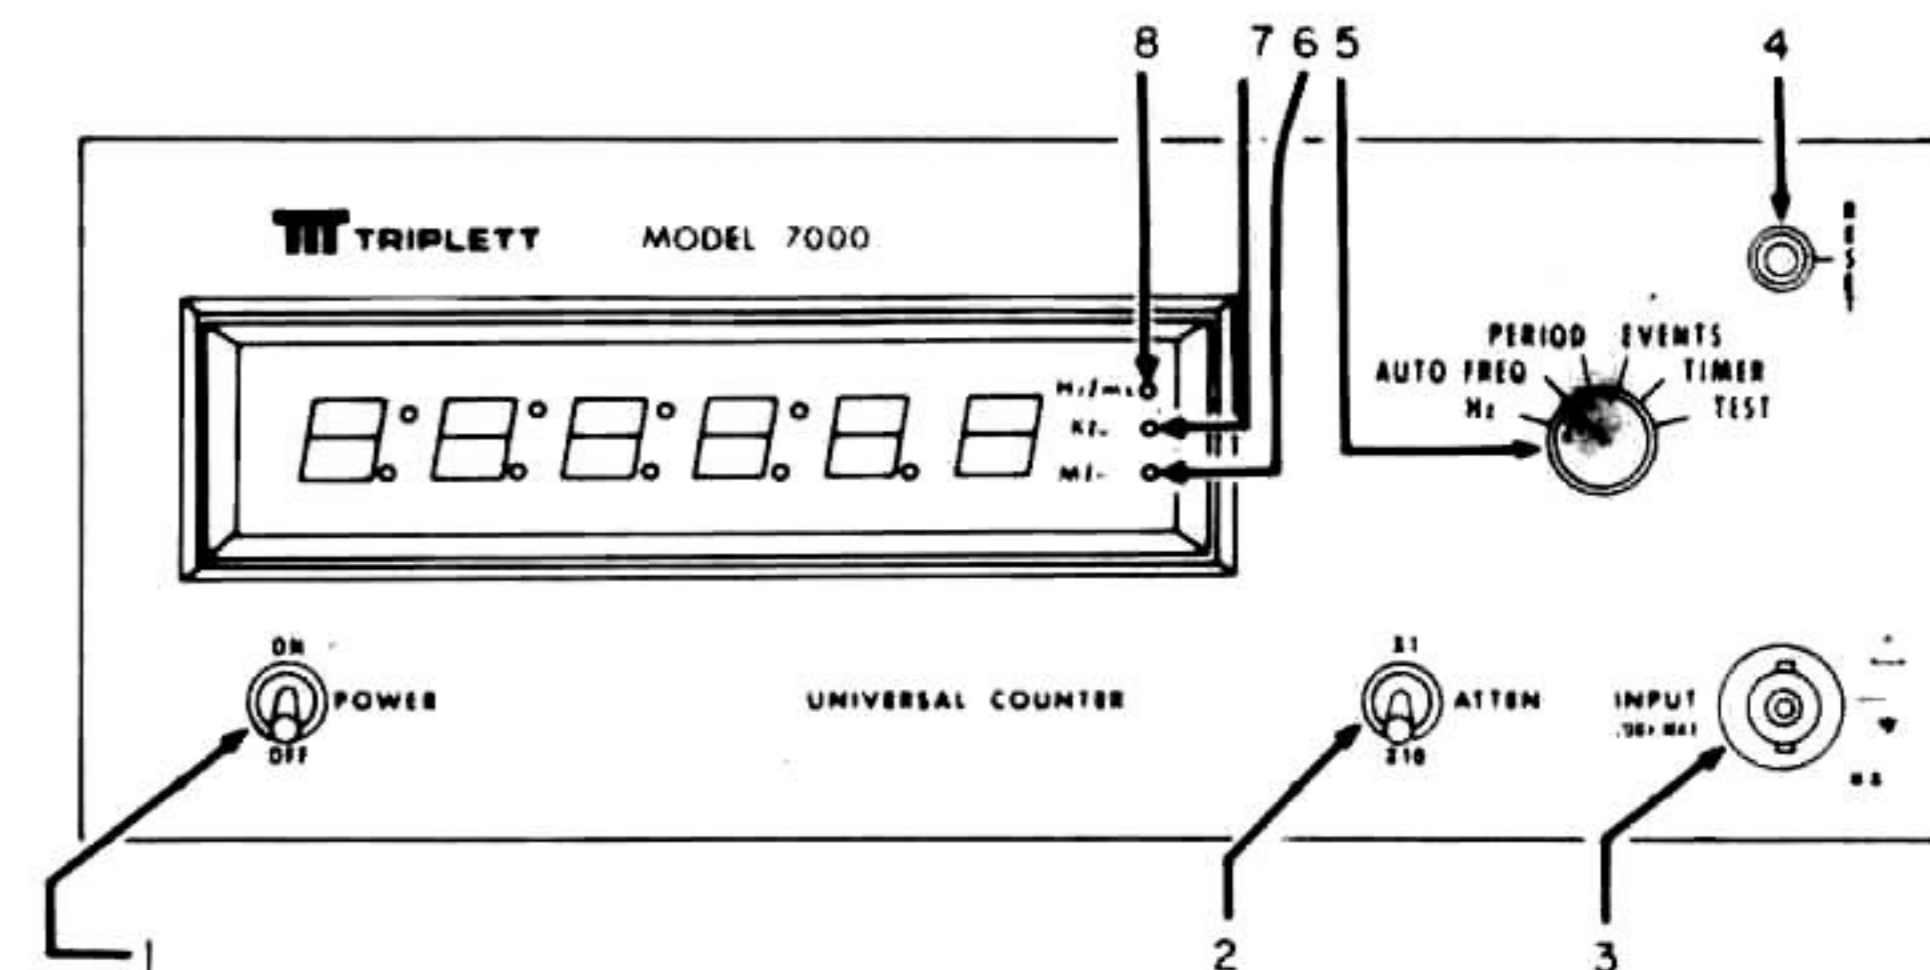

Fig. 3 Front Panel
A. CONTROLS AND FEATURES (See Fig. 3 and 4)